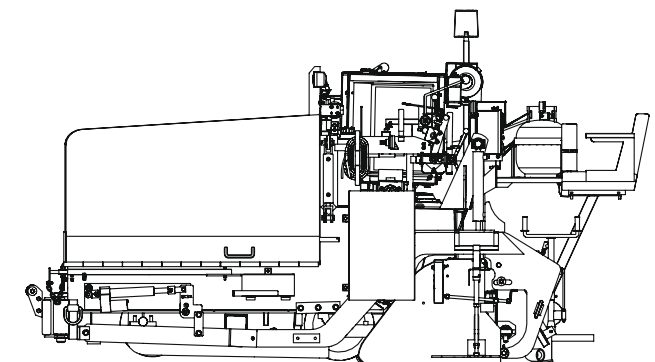

Figure 4-53. Paver on Transport
1. Position paver in center of the trailer. (Figure 4-53)